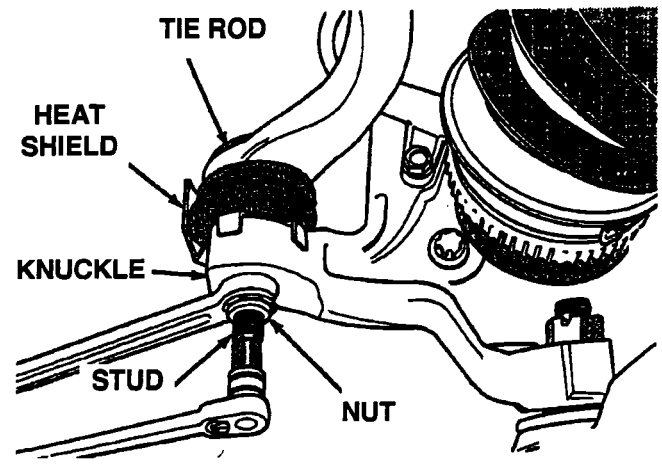

Figure 3
8. Remove the nut that attaches the outer tie rod to the steering knuckle (Figure 3). Remove the nut by holding the tie rod stud with a socket while loosening and removing the nut with a wrench.